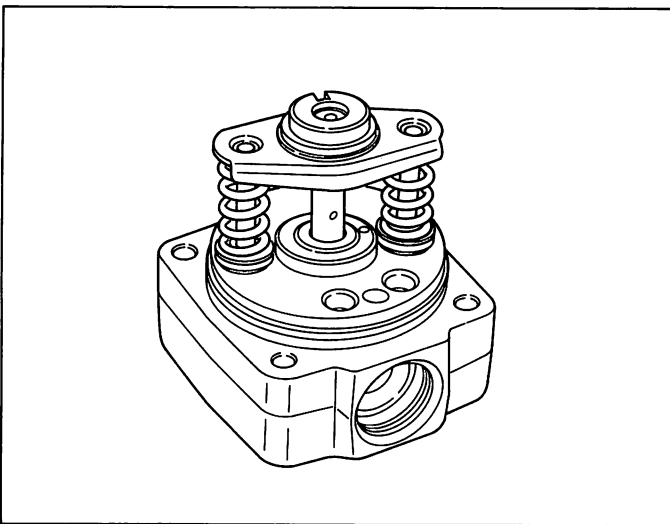

Fig. 59 Plunger assembly diagram
2. Fit the guide pin (49) into the distributor head (50), and then install the spring seat (47) and plunger spring (46) on the guide pin. Do not install the shim (48).
3. Next, fit the shim (43), washer (44) and spring seat (45) on the plunger in that order and install the plunger on the distributor head. (Figs. 59 and 60)